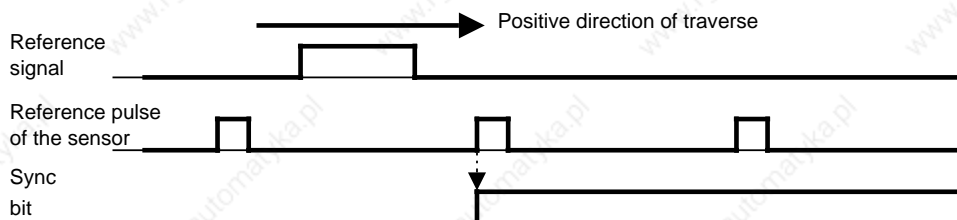

Figure 16-19. Position of the Reference Point (SYNC Bit=1) after the Reference Signal
- If the reference signal changes from "1" to "0" before the reference pulse is reached, the module is only synchronized if a positive traversing path is recognized after the falling edge of the reference signal (see figure 16.19).